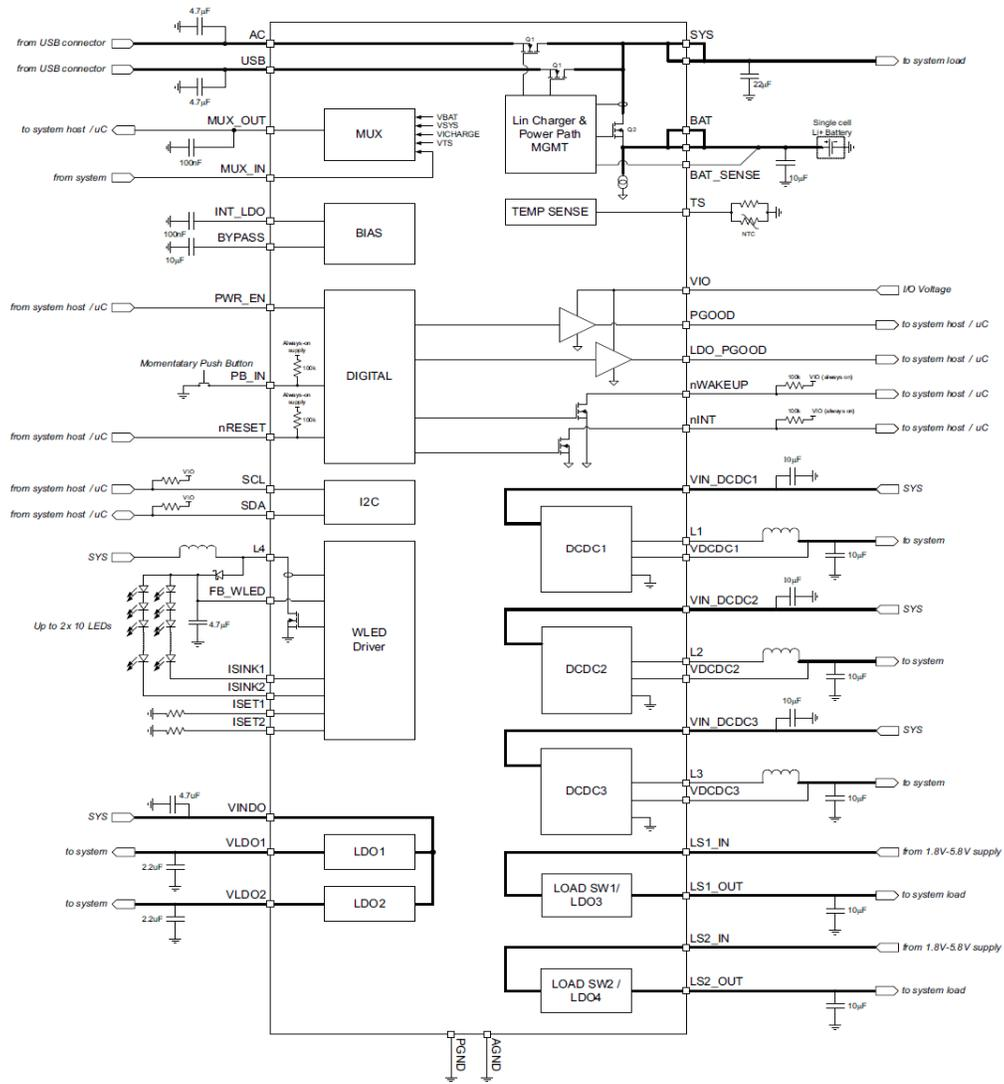

Figure 22 TPS65217C Block Diagram
**Figure 22** is the high level block diagram of the **TPS65217C**.